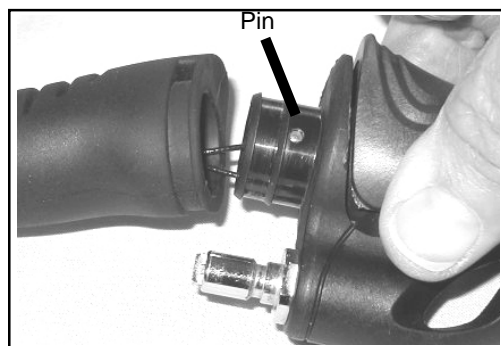

Fig. 5
1. Being careful to avoid damaging the CORRUGATED AIRWAY HOSE (8) remove the TIE WRAP (7) from around the HOSE and pull the HOSE off and away from the Housing of the LOWER POWER INFLATOR ASSEMBLY (10).
2. Using a 3/32" drift pin punch, press or lightly tap out the INFLATOR CABLE PIN (11) that secures the RAPID EXHAUST CABLE (6) in the LOWER POWER INFLATOR ASSEMBLY (10) (Fig. 5).
3. Clean and thoroughly inspect the LOWER POWER INFLATOR ASSEMBLY (10). DO NOT disassemble any components.